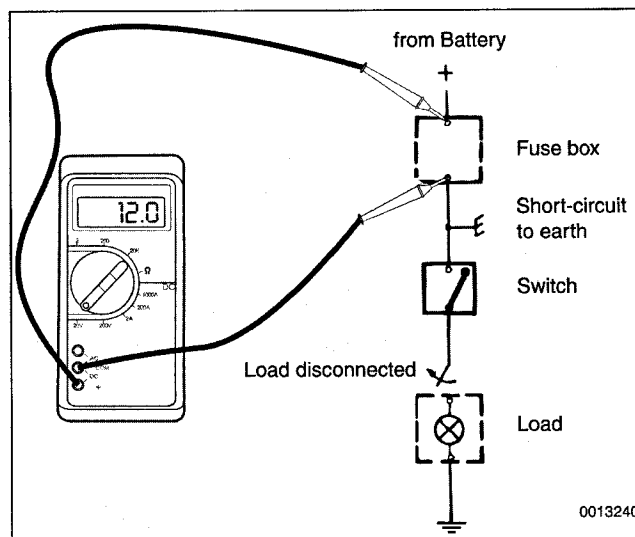

Fig. 5. Digital multimeter being used as a voltmeter to find short circuit.
3. Using a voltmeter, connect test leads across fuse terminals. See Fig. 5. Make sure power is present in circuit. If necessary turn key on.